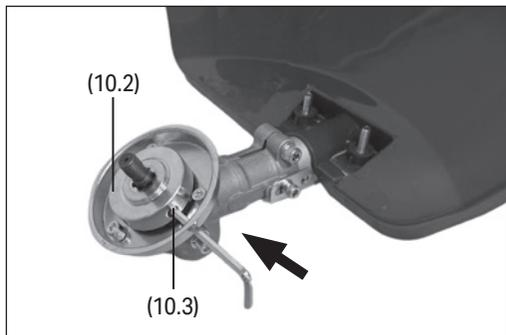

Fig.5
6.4 Fitting the Spool Assembly (Fig.5 – Fig.6)